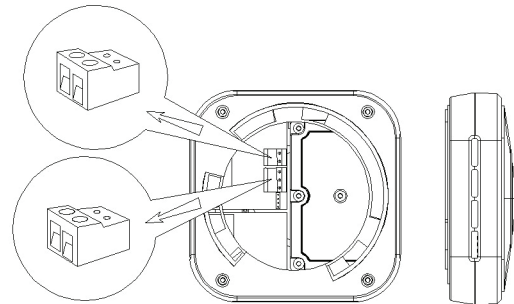

Fig. 8.
4. Unplug the terminal block from the contact pin. See Fig. 8.